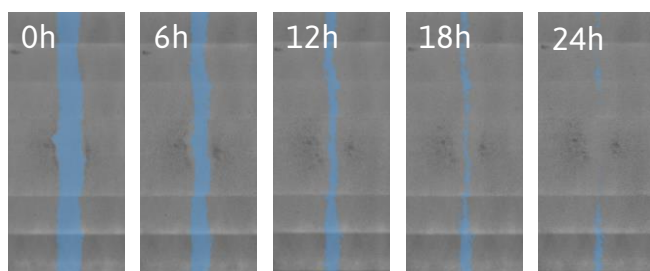

Figure 2: Example scratch analysis.
- Toggle on the **Scratch Assay Module** to get an overlay of the scratch area on top of the brightfield image (Fig. 2).